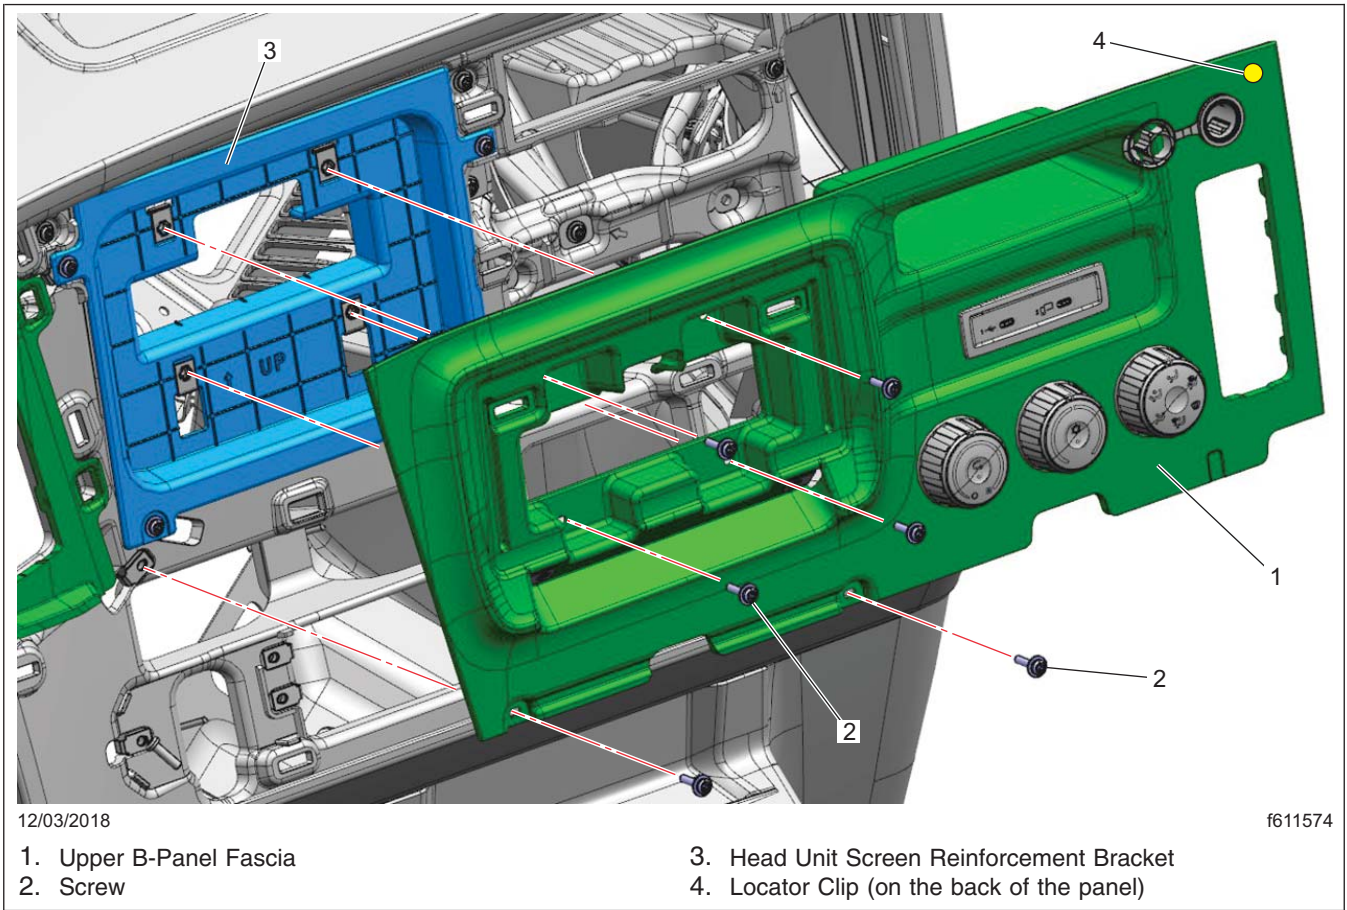

Fig. 5, Upper B-Panel Fascia Removal
5.5 Remove the upper B-panel fascia, and disconnect the wiring as needed. See Fig. 5.